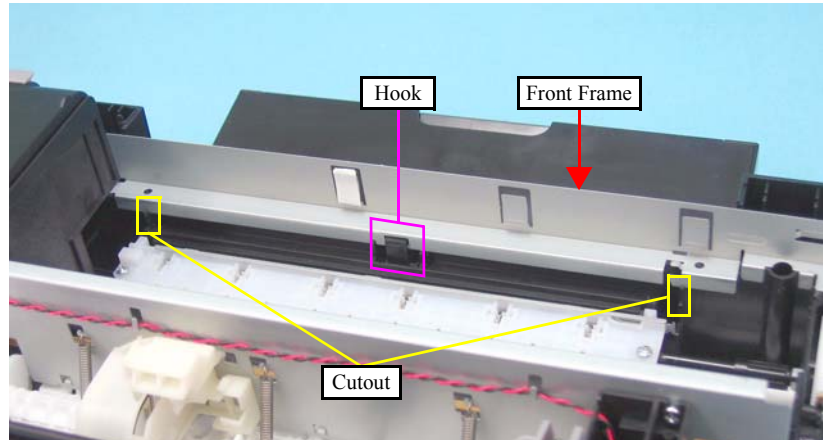

Figure 4-56. Removing the Front Frame/Right Frame (4)
- As shown in Figure 4-56, be sure to secure the Front Frame with the hook (x1) and the cutouts (x2).